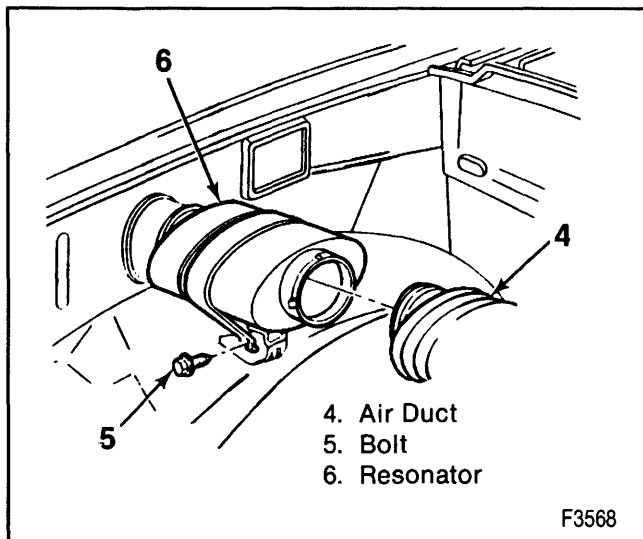

Figure 2—Air Cleaner Resonator (L49, VIN P)
Remove or Disconnect (Figure 2)
**Install or Connect (Figure 2)**